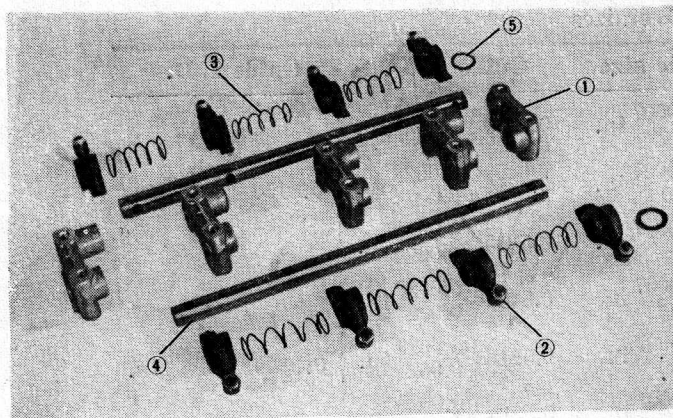

Fig. 41 Disassembling the Rocker Arm Shaft Assembly
(4) After the removal of the rocker arm shaft assembly, divide the assembly into the cap (1), the rocker arm (2), springs (two) (3), rocker arm shafts (two) (4) and the waved washer (5). (Fig. 41)